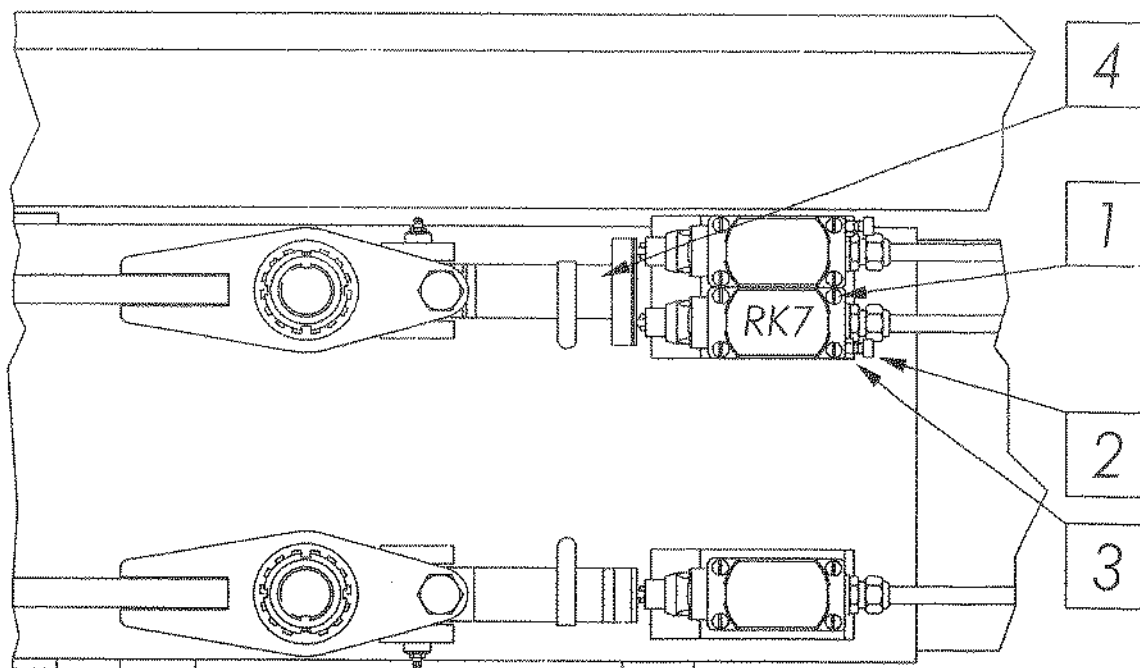

Figure 32-1
4. If the overload signal light does not go on when the movement of the booms stops, loosen fixing screws 1 of limit switch RK7 (figure 32-1).